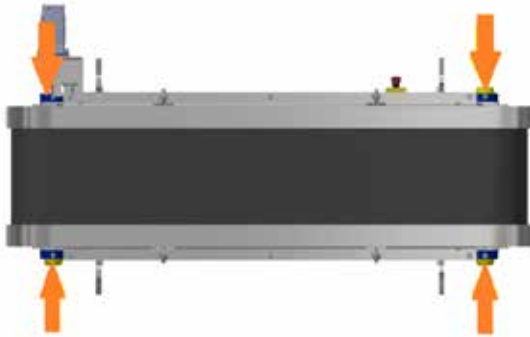

FIGURE 10
- Attach grease pump to nipple on first bearing as indicated in Figure 10.